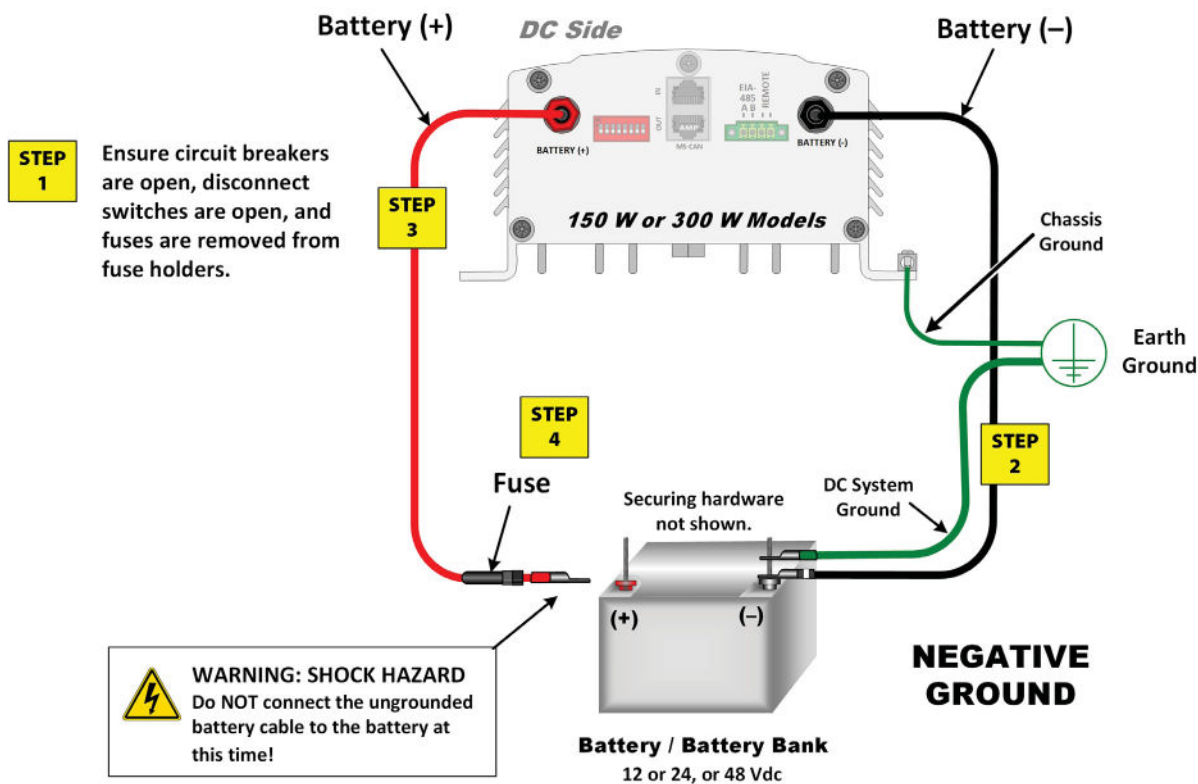

Figure 21: DC Connections on 150 W & 300 W Models with Negative Grounding
- **For 150 W & 300 W Models:** See Figure 21 on page 27